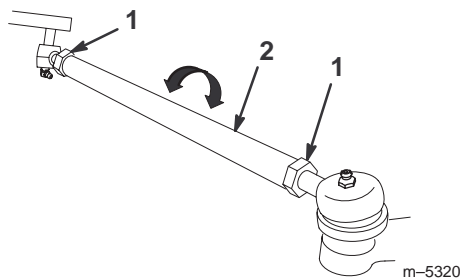

Figure 46
5. If the measurement does not fall within the specified range, loosen the jam nuts at both ends of the tie rods (Fig. 46).